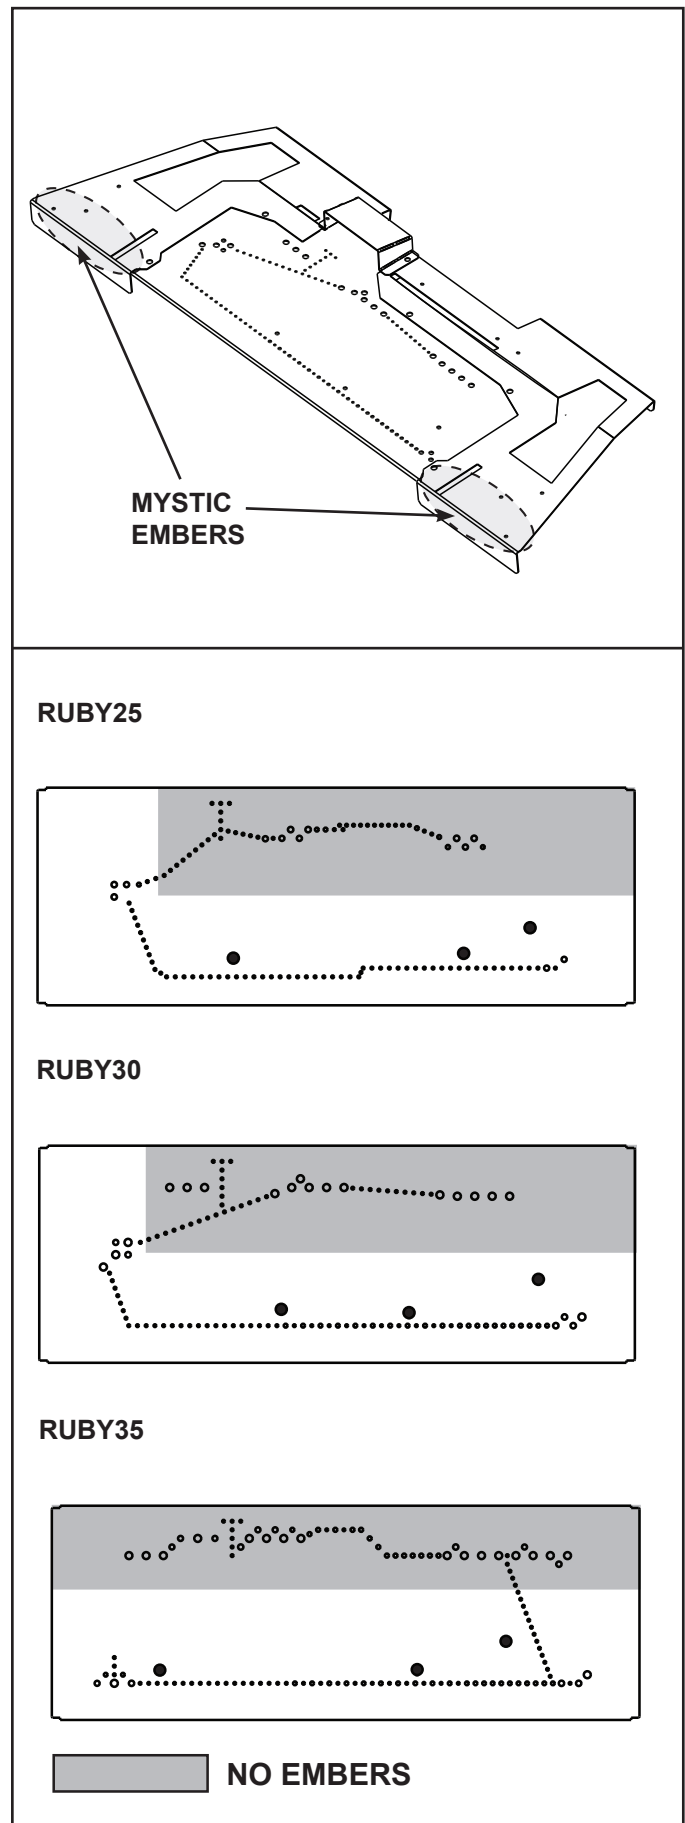

Figure 9.3 Placement of Embers
- Use mystic embers to mask transition between base refractory and base pan. See Figure 9.3.
- Embers CANNOT be placed directly over burner ports that are indicated in Figure 9.3 or in pilot area as indicated in Figure 9.3.
- Embers may be placed on the ports in areas indicated in Figure 9.3. These embers must be placed loosely over the port holes, not pressed down on or into the holes. Create a single layer, no more than 1/4 inch thick.